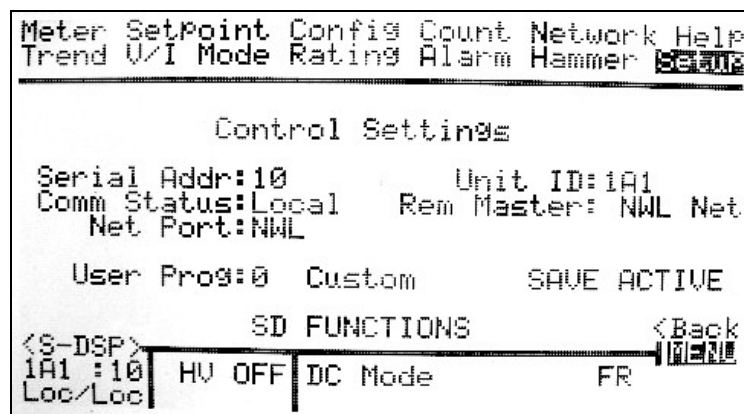

Figure 1-9
2. move to **Comm Status** (fig. 1-9) and change it to *Local*